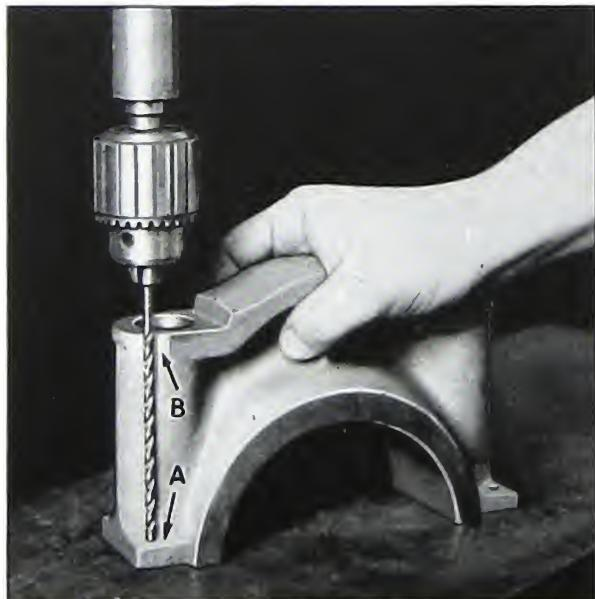

Fig. 2-27. Drilling dowel hole
block and grind or file flats on the cap at points A and B on the flywheel housing side of the cap as shown in Fig. 2-27.
2. Set the cap flat on a drill press (milled side down) and use a 5/32" drill 7" long, to drill two holes through the cap as shown in Fig. 2-27. Chamfer holes slightly on the finished side of cap.